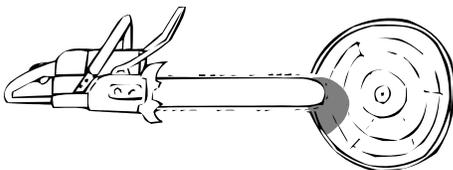

Figure 16: Swing into plunge cut position
3. Swing saw slowly into plunge cutting position. (Fig. 16)